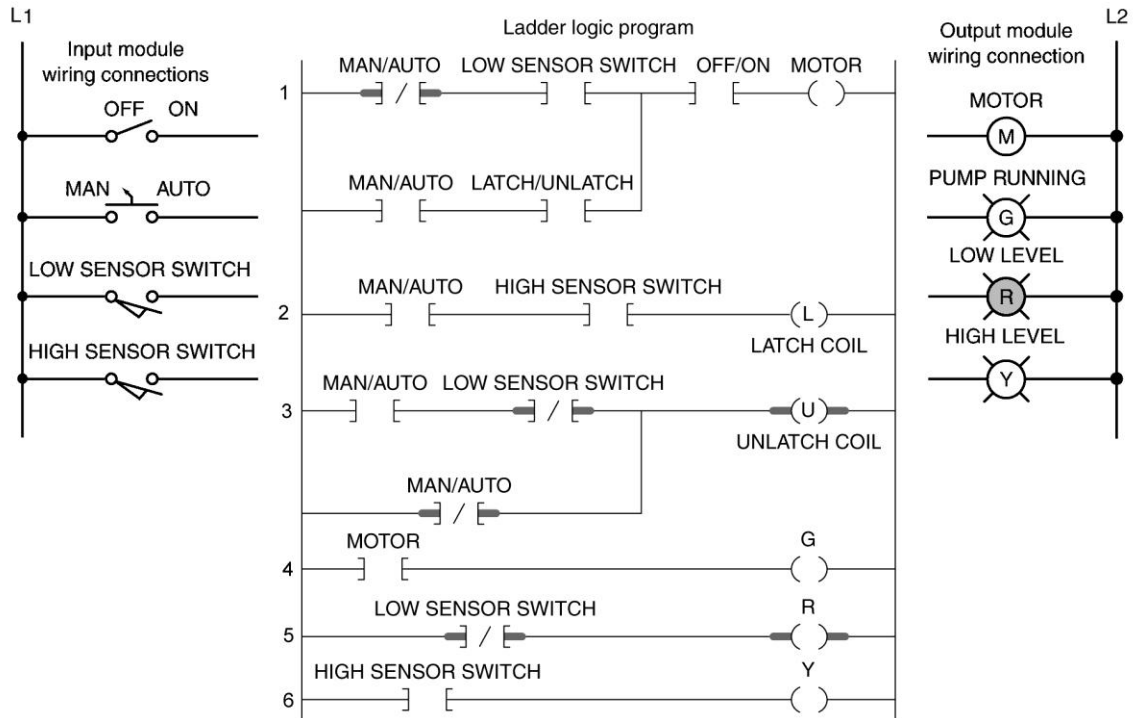

Figure 6-39 Water-level control program for assignment 16.
16) The program of Figure 6-39 is described in the text and is used to control the level of water in a storage tank. Prepare an I/O connection diagram and ladder logic program for the process. Use addresses that apply to your PLC. Enter the program into the PLC, and prove its operation.